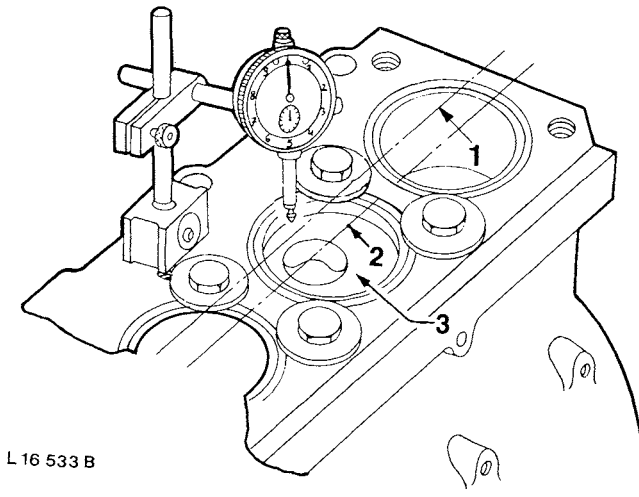

Fig. 8 — Measuring Clearance Between Top of Piston (at TDC) and Surface of Cylinder Block
3. Using a dial indicator measure protrusion of each piston (at TDC) above top face of cylinder block center line as shown by 1, fig. 8).